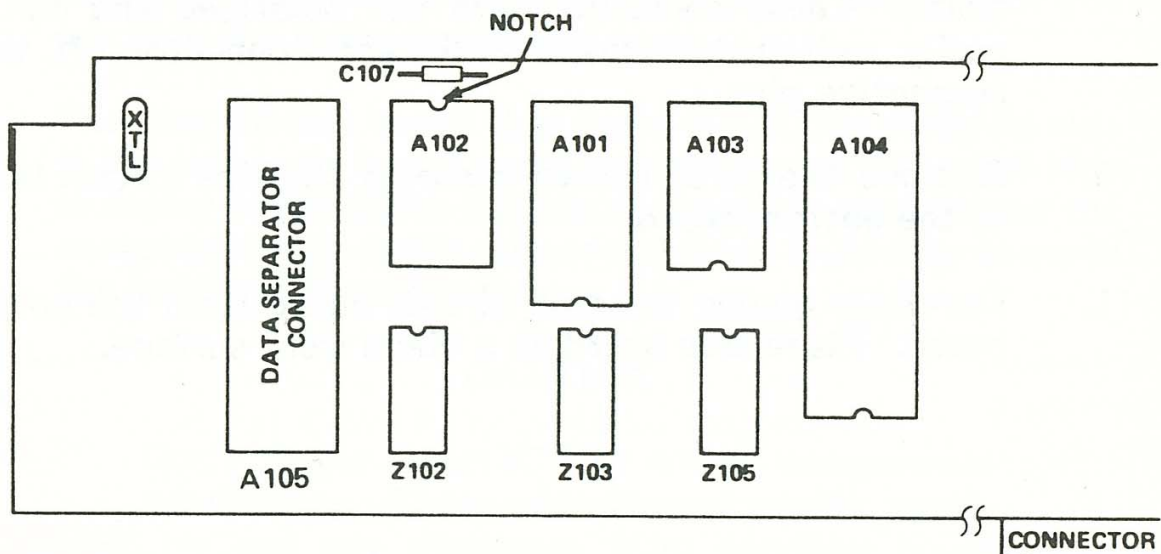

Figure 2-2. Side Board Component Locations
14. Make note of how the IC's are positioned in their sockets. (Look for notch on IC.) Also look for the IC identification numbers (e.g., A102, A103, etc.). Refer to figure 2-2.